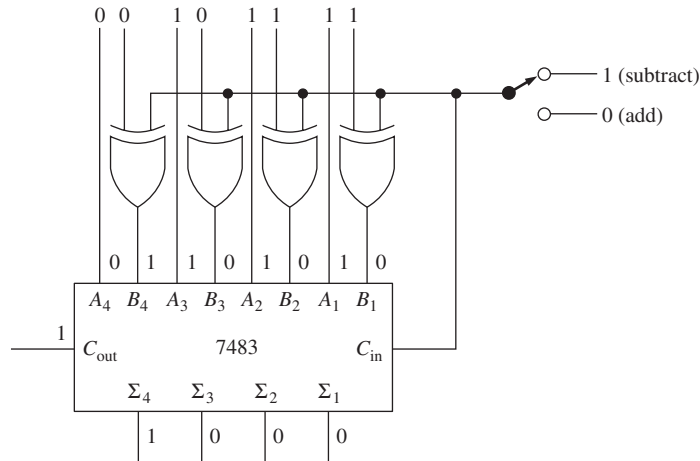

Figure P7-27
- T** 7-27. Figure P7-27 is a 4-bit two's-complement adder/subtractor. We are attempting to subtract $7 - 3$ ($0111 - 0011$) but keep getting the wrong answer of 8 (1000). Each test node in the circuit is labeled with the logic state observed using a logic probe. Find the two faults in the circuit.